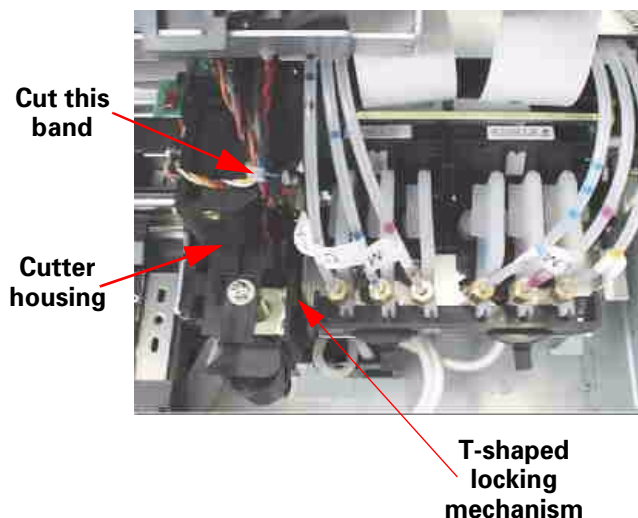

Figure 4-41. Cutter Housing Removal 1/2
4. Carefully, but forcefully, pull the cutter housing slightly to the left to release it from the carriage, but do not pull the cutter housing completely off. See Figure 4-41 and Figure 4-44 for photos of the T-shaped housing/carriage lock mechanism.